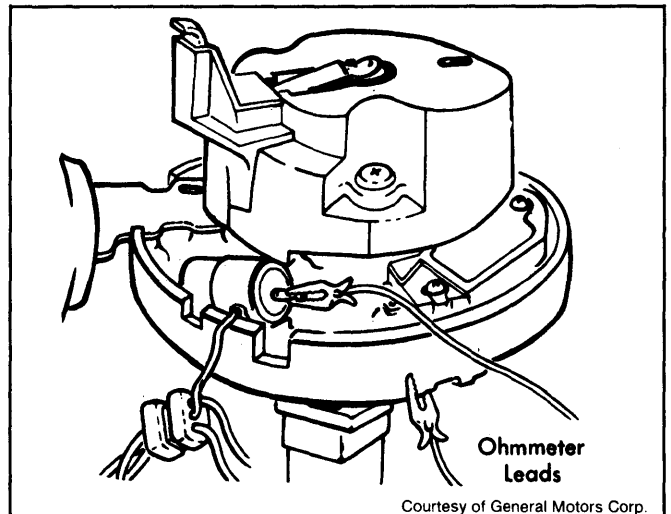

Fig. 5: RFI Capacitor Test Connections
7) Disconnect the Radio Frequency Interference (RFI) capacitor. Connect one ohmmeter lead to capacitor terminal and other lead to ground. See Fig. 5. Ohmmeter should move slightly, then return to infinity. Any continuous reading other than infinity indicates a bad RFI capacitor.